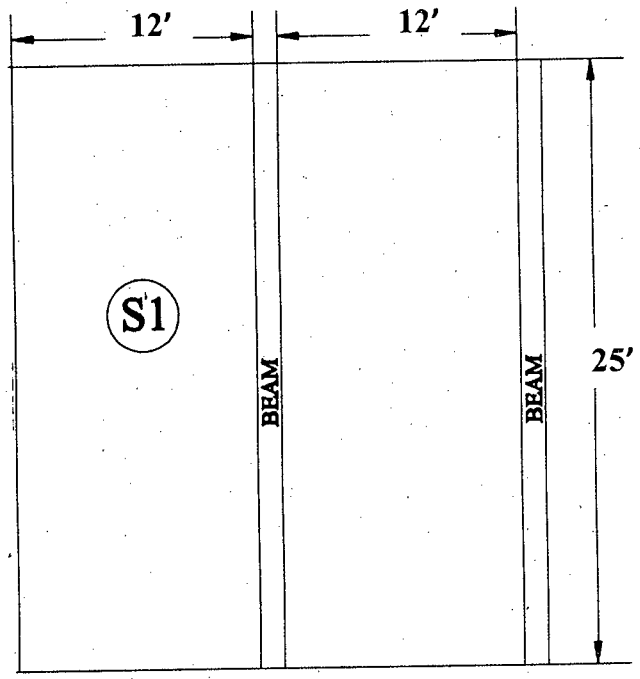

Figure: 02
2. (a) A reinforced concrete slab consists of more than two spans and has unrestrained discontinuous end. Design the one way slab panel 'S1' as shown in Fig. 02. The service live load is 100 psf in addition to its self-weight. Follow the provisions of ACI code. Use Fig. 03 to determine factored moment. Draw the reinforcement details also. (20)